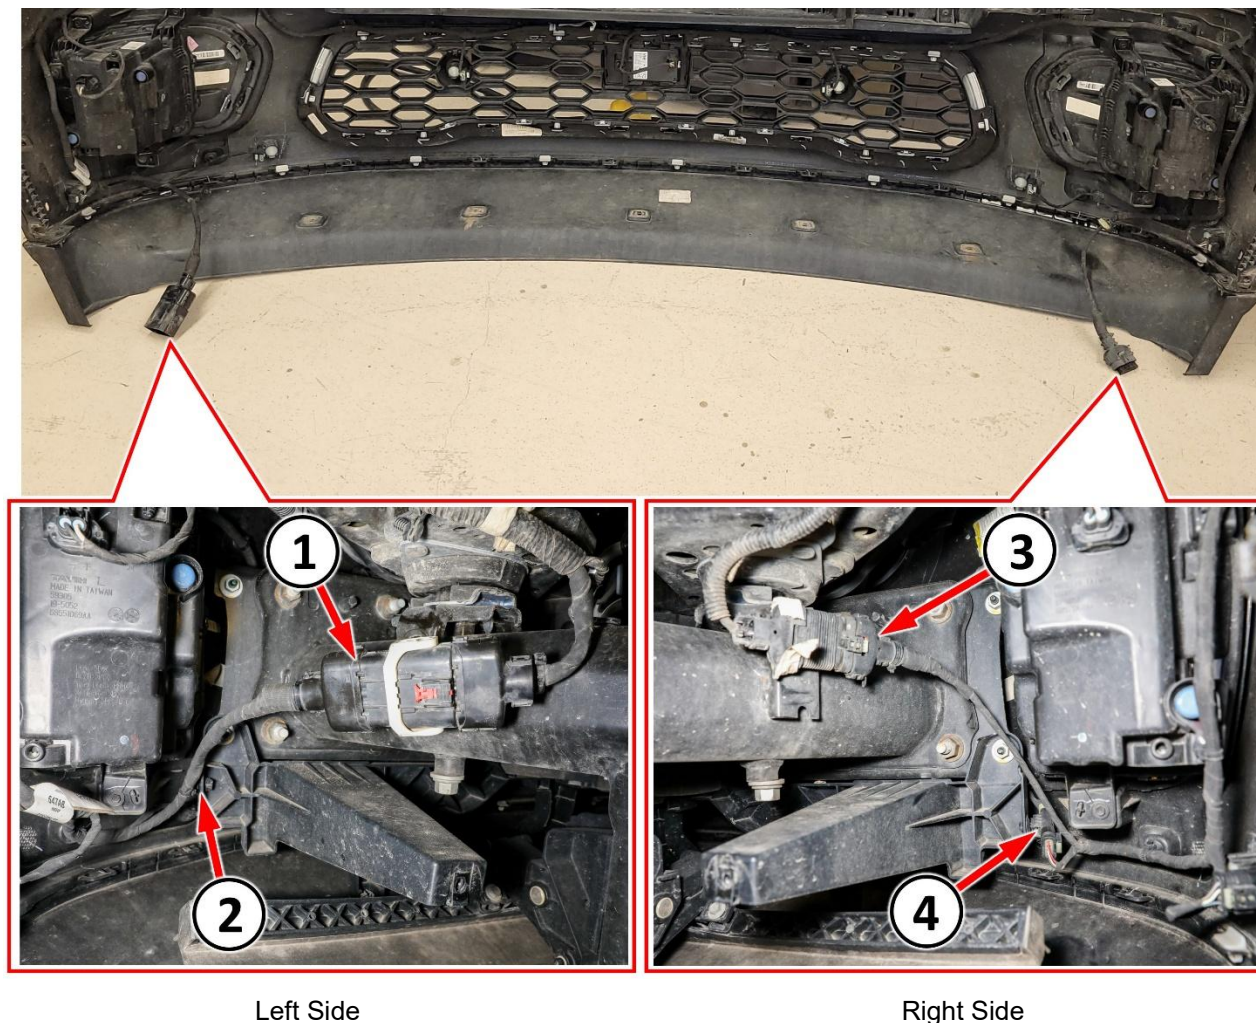

Figure B6 – Facia Wire Harness Electrical Connectors
11. Disconnect the wire harness electrical connectors and retainer on each side of the facia (Figure B6).